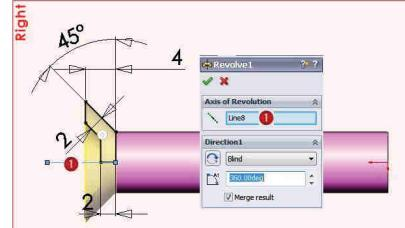

Fig. 2.41
**3 Trasare contur  $4 \times 2 \times 45^\circ$ :** Comanda Sketch – Fig. 2.41 – plan Right.
**4 Revoluție contur  $4 \times 2 \times 45^\circ$ :** comanda Revolved Boss/Base – Fig. 2.41 –  selecție axă de revoluție 1 / Blind /  $\Delta A_1$  360° /  .
**3 Sketching of the  $4 \times 2 \times 45^\circ$  contour:** The Sketch command – Fig. 2.41 – Right plane.
**4 Revolving the  $4 \times 2 \times 45^\circ$  contour:** the Revolved Boss/Base command - Fig. 2.41 –  select axis of revolution 1 / Blind /  $\Delta A_1$  360° /  .